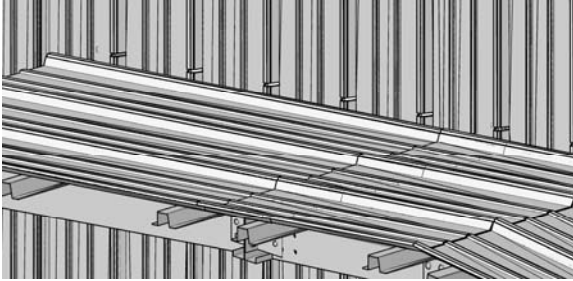

FIGURE 13
1. Place the Ridge Roof Sheet and (2) End Roof Sheets on to the Hat Purlins. Center the sheets and slide them against the building wall sheets as shown. Mark each of the wall corrugations at the top of the roof panel per **Figure 13**. Mark the wall where the sheet ends.
3. Cut each of the major ribs as shown in Figure 13 following the roof slope. **Do not cut the minor ribs or the flat of the panel.** If the end of the roof sheet ends on a major rib, only cut the portion of the rib in line with the roof panel.